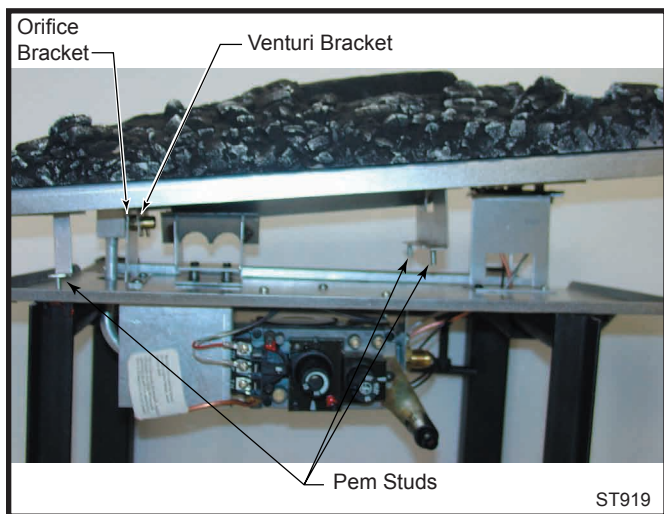

Fig. 73 Tilt ember bed slightly to correctly place on venturi and air shutter.
2. Carefully remove ember bed by tilting the right side up and lifting out toward the right side of the unit. (Fig. 73)
1. Replace burner making sure venturi on bottom of ember bed aligns with orifice and is seated properly on air shutter assembly. (Fig. 73) Make sure burner is slid into place at a slight angle and opposite to how it was removed. When burner is slid into place, the three (3) pem studs should slide down through clearance holes into the bottom of the control panel.